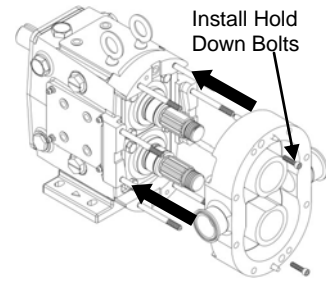

Figure 61: Installing Pump Body
1) Make sure all seal components are installed by following “Seal Maintenance” instructions provided on pages 17-20. Ensure all dowels are in place and that all parts including body, rotors and jam nuts are clean and free of foreign matter. Slowly slide the body over the gear case studs and shafts, ensuring the seals are kept in place and not damaged (Figure 61). Install the two hold down bolts and tighten the body against the gear case to ensure the dowels are engaged. Rotate the shafts to make sure there is no interference with the seals.